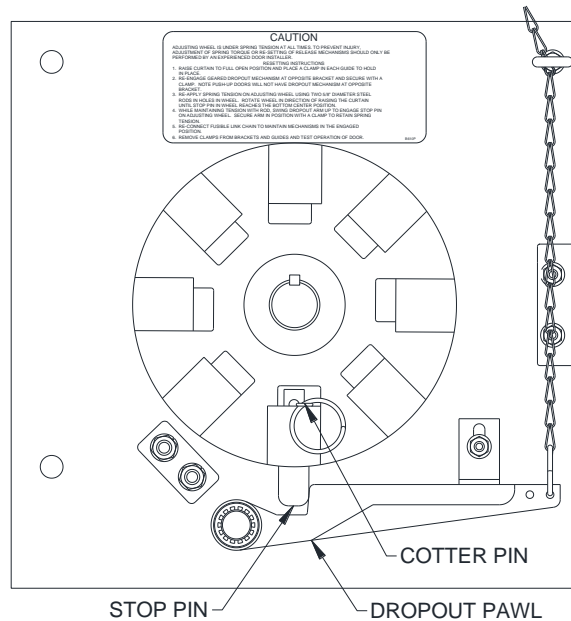

Figure 9.1 - Spring Release Assembly for a Conventional Fire Shutter
5. Replace stop pin into adjuster wheel as shown in **Figure 9.1** and insert the cotter pin to hold it in place.